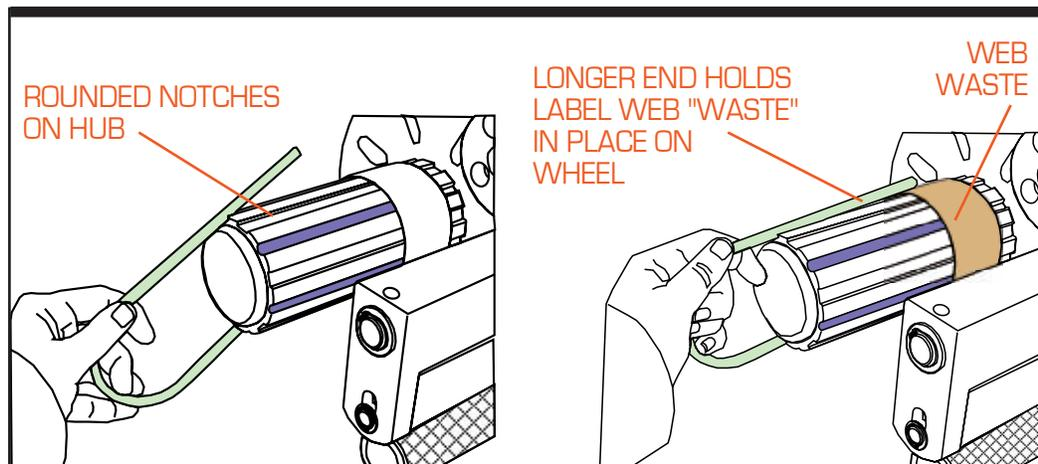

Figure 3-7. Web Holding Pin on Rewind Wheel
- Step 7.** Remove the pull pin (see Figure 3-7) and wrap the webbing under, around the back and over the top of the Rewind Shaft [10]. Replace the pull pin so that the label stock is captured.